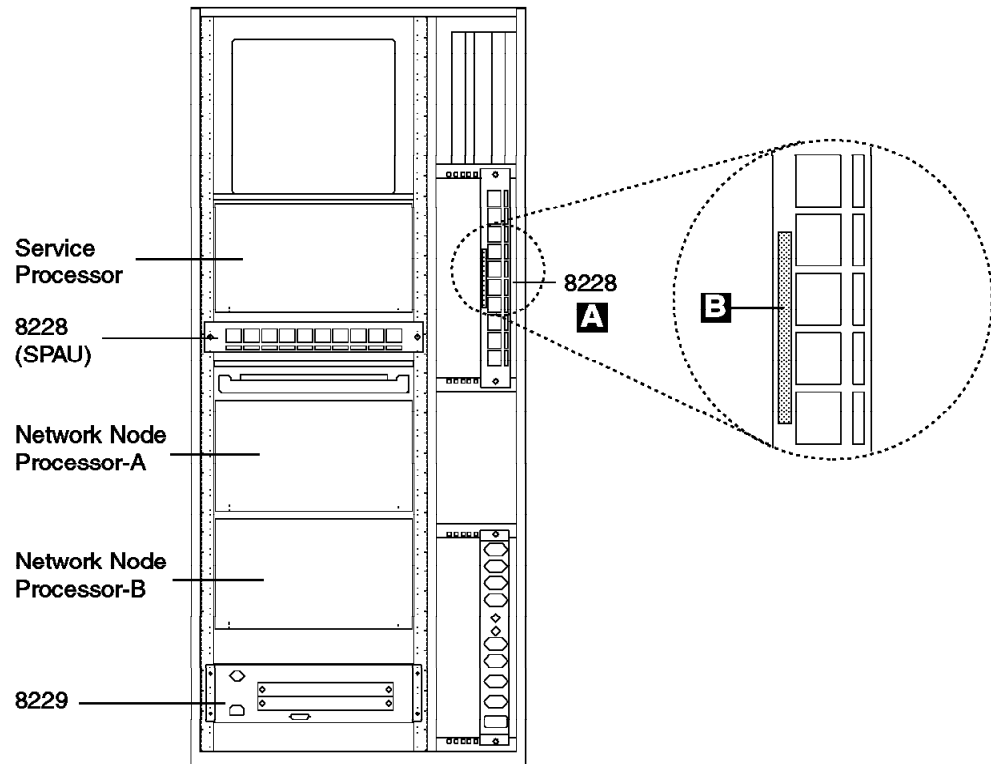

Figure 9. Installing One Ethernet Bridge in the Controller Expansion-A (Rear View)
- In the **controller expansion-A**, Refer to **Figure 9**
- In the **controller expansion-A**, Refer to **Figure 9 on page 20**